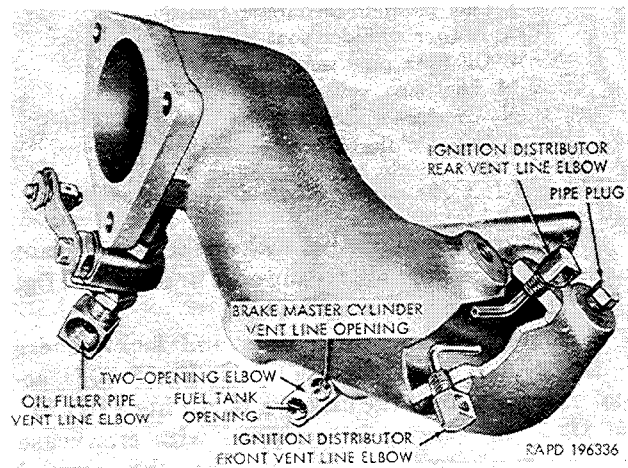

Figure 2-102. Early type air cleaner elbow with fittings.
a. *General.* The air cleaner elbow connects the air cleaner to the carburetor. Two types of elbows have been used. The design of the air cleaner elbow was changed to relocate vent line connections. Figure 2-102 shows the early type elbow, with the various fittings and their locations. When servicing the vent lines or connecting fittings, make certain that correct fittings are used and that the lines are connected to their respective fittings.
(1) Remove air cleaner (para 2-78 c).
(2) Disconnect the oil filler pipe vent line (W) at the inverted flared tube elbow (Z).
(3) On engines equipped with crankcase ventilation shutoff valves, loosen the shutoff valve lever swivel screw (Y) and the screw that secures the tension clip (C), and disengage the control from the oil filler pipe vent line shutoff valve lever swivel.
(4) Disconnect the brake master cylinder vent line (L) and the fuel tank vent line (R) from the inverted flared-tube elbows (AA) or from the special two-opening elbow (fig. 2-102).
(3) Inspect the air cleaner elbow for cracks and loose or damaged support bracket studs. Tighten loose studs; remove damaged studs. Replace a damaged air cleaner elbow.
(4) Inspect the pipe nipple (BB) and other parts that connect the oil filler pipe vent line to the air cleaner elbow. These items are described in paragraph 2-71.
(5) Inspect the vent line inverted flared tube elbows for cracks and other damage. Inspect the offset tubes in the air cleaner elbow which are part of the distributor vent line inverted flared tube special elbows for restriction, damage, cracks, and unsatisfactory welds. Remove any elbows that are unfit for further service.
(6) If the pipe plug (U, fig. 2-101 or fig. 2-102) is damaged, remove the plug.
(1) If the pipe plug (U, fig. 2-101 or fig. 2-102) was removed (c (6) above), install a pipe plug.
(3) For the late type air cleaner elbow, install the two tube elbows (AA) for the brake master cylinder and fuel tank vent lines. For the early type air cleaner elbow, install the special two-opening elbow (fig. 2-102) for these vent lines.
(10) Tighten the capscrew that secures the elbow support bracket, the nut (U) that secures the front support bracket, and the three nuts that secure the elbow to the carburetor air horn.
(11) Connect the distributor front vent line (E, fig. 2-103) to the inverted flared tube elbow (P, fig. 2-103 or 2-102). Connect the distributor rear vent line (F, fig. 2-103) to the inverted flared tube elbow (D, fig. 2-103 or fig. 2-102). Tighten the vent line nuts.
(12) Connect the master cylinder vent line (L) to the inverted flared tube elbow (AA) or to the inner opening of the special two-opening elbow (fig. 2-102). Connect the fuel tank vent line (R) to the other inverted flared tube elbow (AA) or to the outer opening of the special two-opening elbow (fig. 2-102). Tighten the vent line nuts.
(13) On engines equipped with crankcase ventilation shutoff valves, insert the control wire for the oil filler pipe vent line shutoff valve in the swivel on the valve lever. Engage the two shutoff valve controls in the tension clip (C) on the control support plate (B). Adjust the shutoff valve controls (para 2-72 *e*) before tightening the swivel screw or the tension clip screw.
(14) Connect the oil filler pipe vent line (W) to the inverted flared tube elbow (Z). Tighten the vent line nut.
(15) Install the air cleaner (para 2-78).